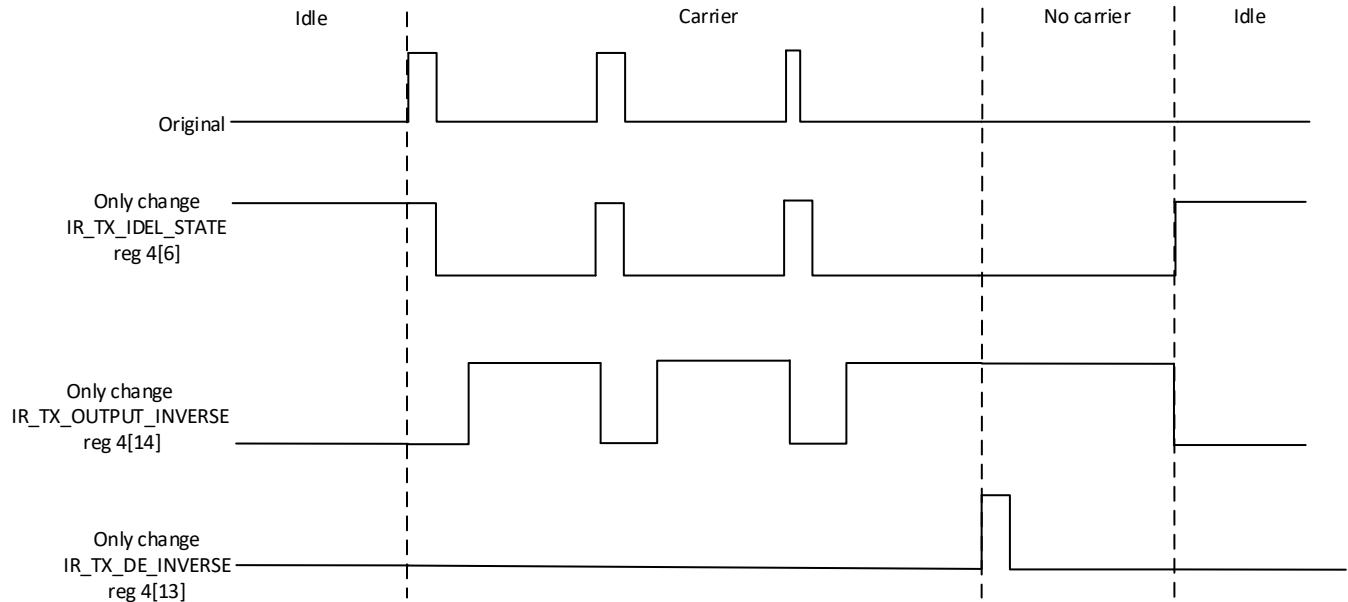

Fig 15-5 Tx output level
- (1) Enable IR clock, set RCC configuration register.
- (2) Disable all interrupts.
- (3) Set IR_CLK_DIV and IR_TX_DUTY_NUM.
- (4) Set IR Tx output level characteristic, IR_TX_OUTPUT_INVERSE/IR_TX_DE_INVERSE/IR_TX_IDEL_STATE (See Fig 15-5).
- (5) Set Tx FIFO threshold if needed.
- (6) Clear all interrupts.
- (7) Set IR work mode.
- (8) Write data to Tx FIFO.
- (9) Start transfer by writing 1 to IR_TX_START.
- (10) Write more data to Tx FIFO if needed (based on TX_FIFO_LEVEL_INT).